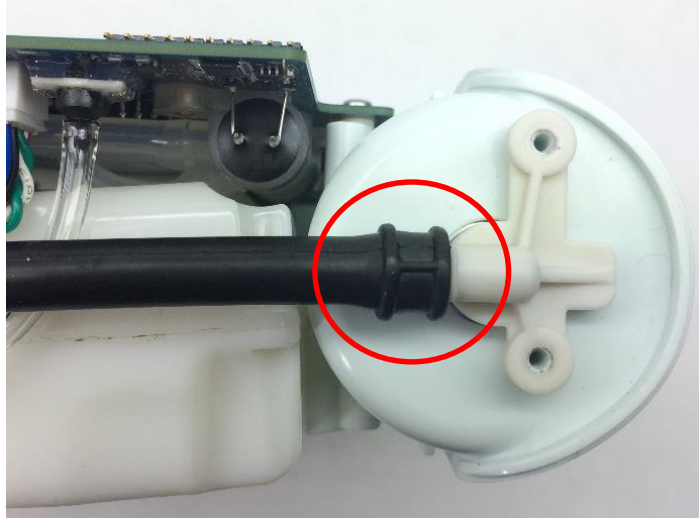

Figure 6: Column Receptacle and Tubing
1. Install the column receptacle into the molded column tube, ensuring that the clocking lines on the tube are directly on top of the receptacle barb (Figure 6). Place the receptacle on top of the column.